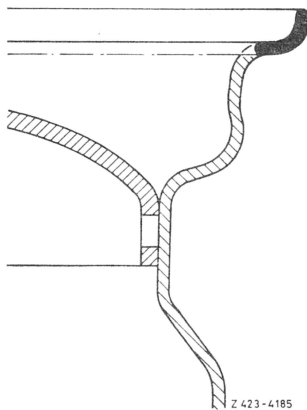

Fig. 12
e) Make the guard ring yourself by removing the rim flanges of a no longer used disc wheel 5 1/2 J x 14 H, Part No. 115 400 13 02 (Fig. 12).